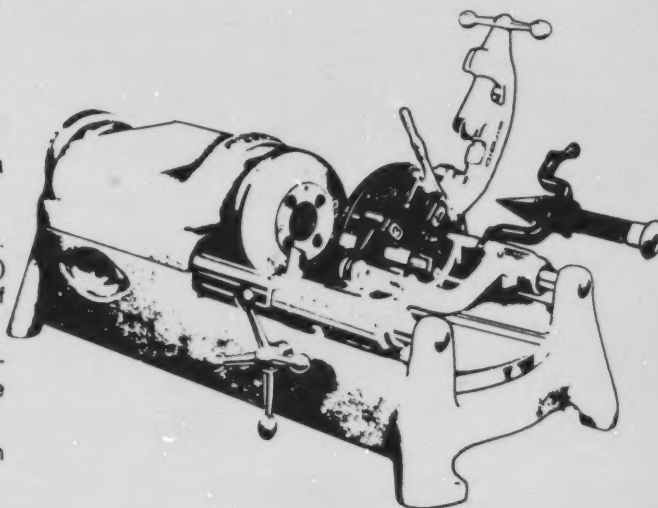

Figure 1-55. Power Threading Machine
b) These machines come in various sizes and are portable and non-portable. One type is shown in Figure 1-55.